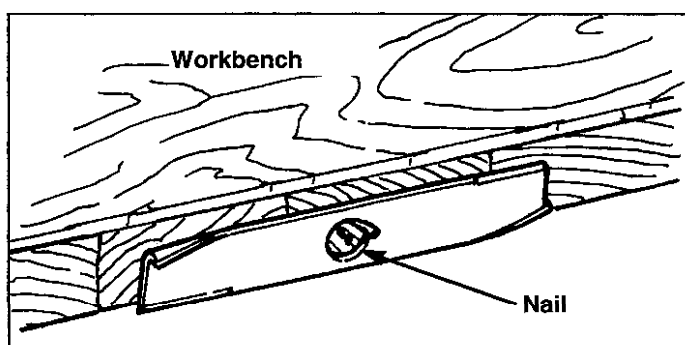

Figure 23. Balancing The Blade
5. Balance the blade as shown in Figure 23. Center the blades' hole on a nail lubricated with a drop of oil. A balanced blade will remain level.